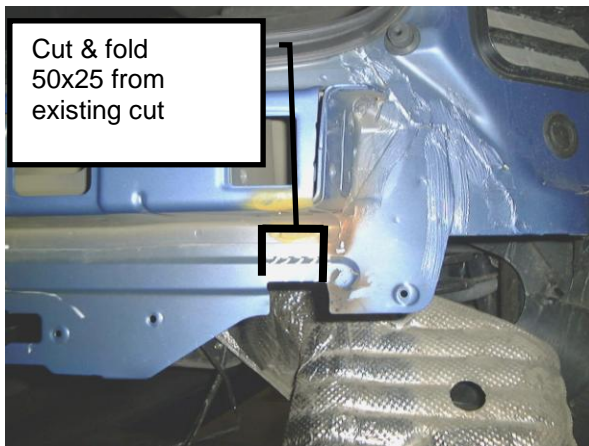

FIG 1 DRIVERS SIDE
- 4 Cut rear panel as per diagram with tin snips, and then fold section of panel up and flat. (see Figures 1 & 2)